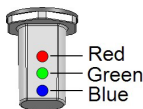

Figure 7: LEDs
- **Inverter LED indicator** (See *Figure 7*) : Indicate the inverter statuses as described in the following table: